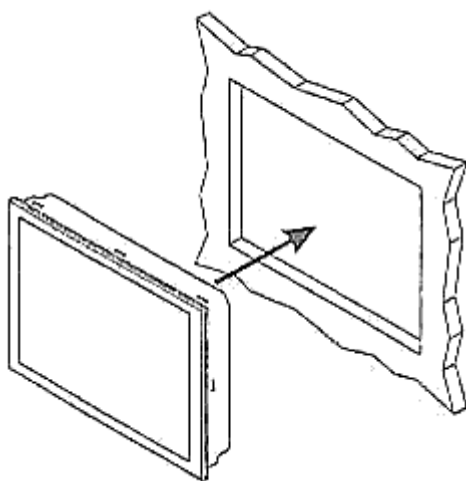

Fig. 7: Cutout schematic
1. > Cut out the panel according to the dimensions in Fig. 7.